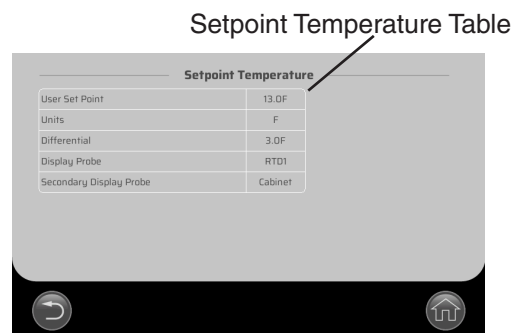

Fig. 23
- Press and release the center of the RTD1 probe temperature display again. The Setpoint Temperature table is shown. See Fig. 23.